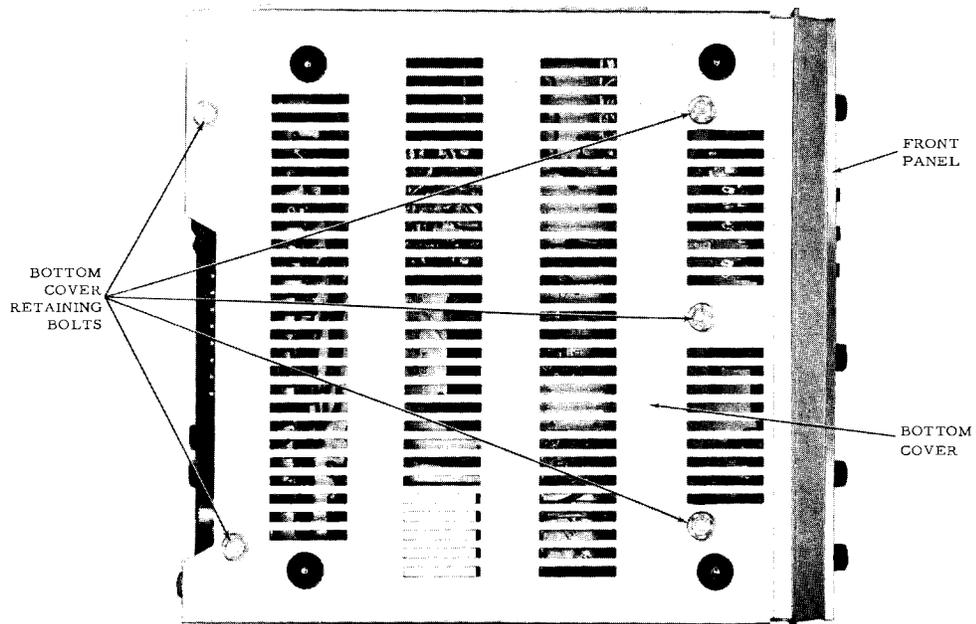

Figure 3.
(3) Tilt the front panel down and away from the chassis for access to chassis and front panel components.
e. Removal of Chassis Bottom Cover (Figure 3)